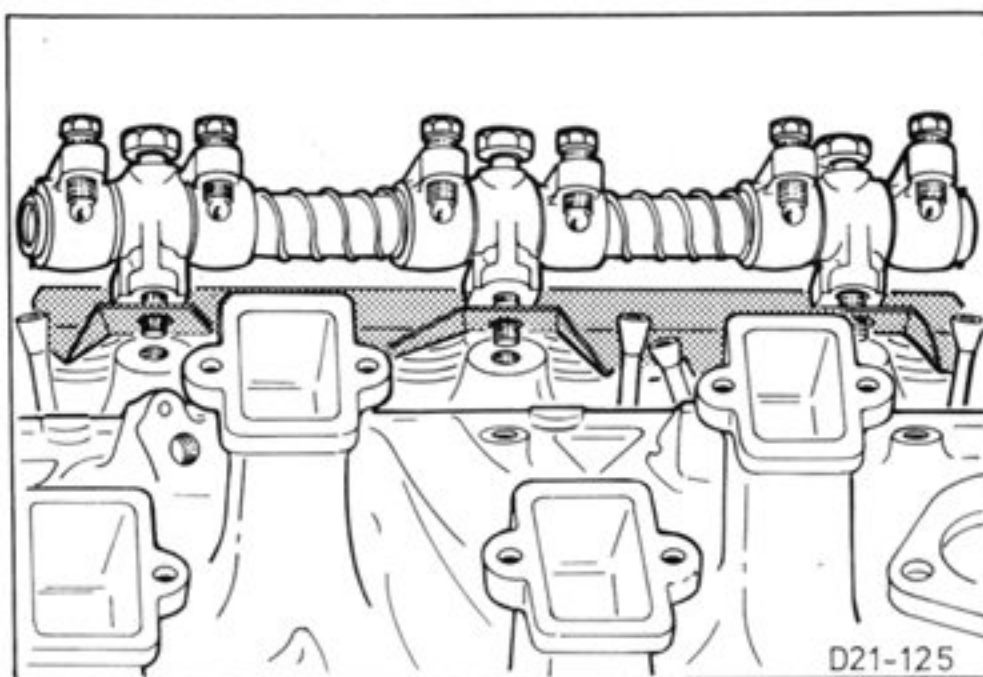

Fig.93. Fit rocker shaft with oil splash plate.
22. Apply engine oil to both ends of push rods and place them in the tappet sockets. Fit oil throwers and rocker shafts, Fig.93, guiding the adjusting screws of the rockers into the push-rod sockets. Screw in rocker shaft bolts and tighten to specified torque.